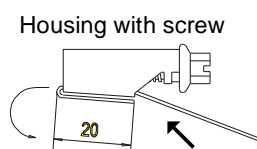

Figure 4: Strap housing
2. Insert the strap into the housing from the screw head side, and bend a projection of 20mm over the ridge (**Figure 4**).